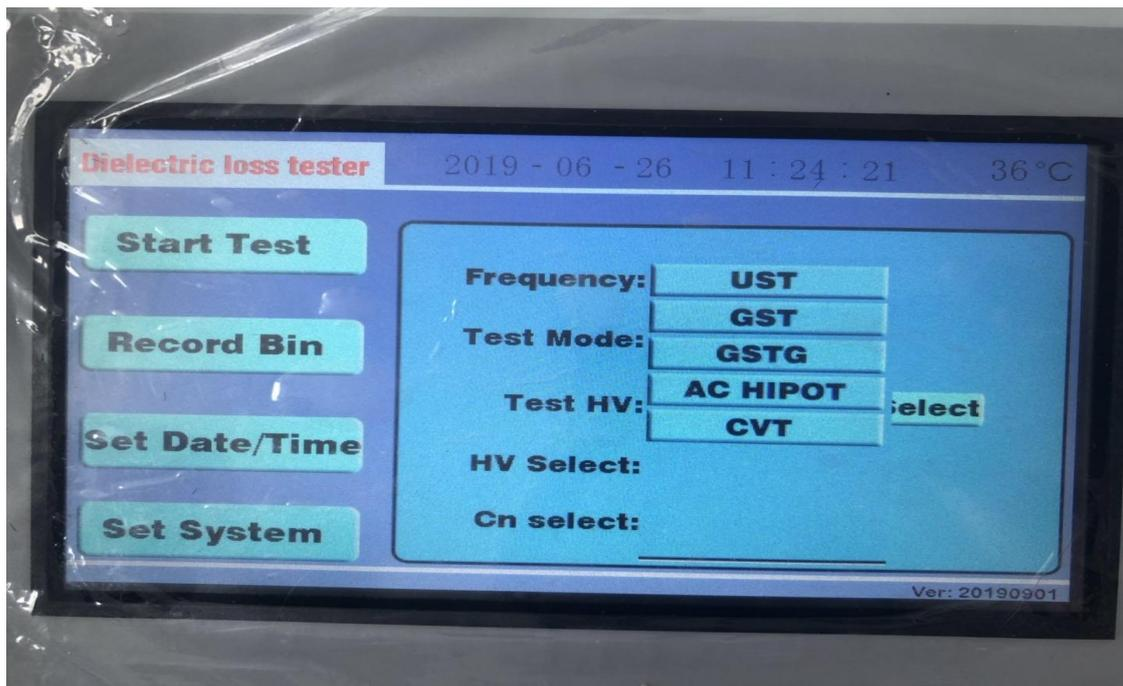

Fig. 12 Mode Selection Modification Diagram
3) Modify the test mode by clicking on the "reverse wiring" with a touch-screen pen or finger. Appearance Figure 12